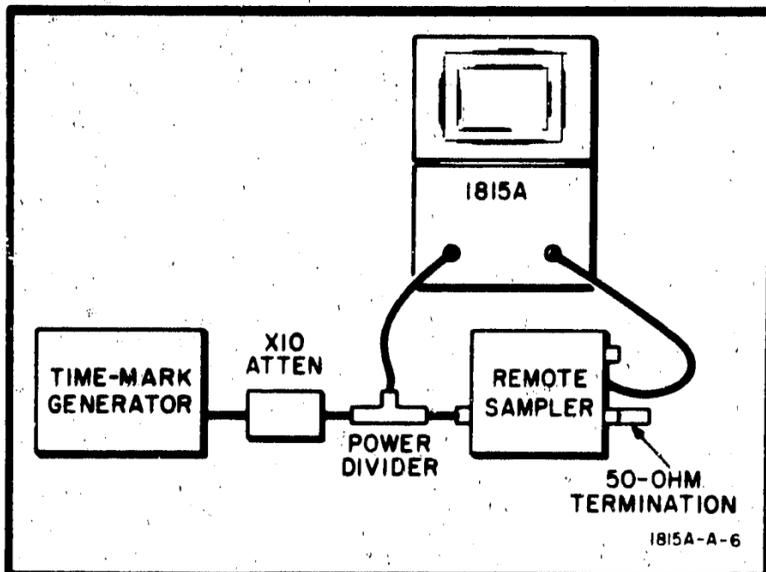

Figure 5-16. TIME/DIV Test Setup
a. Connect the time-mark generator and X10 attenuator as shown in Figure 5-16.